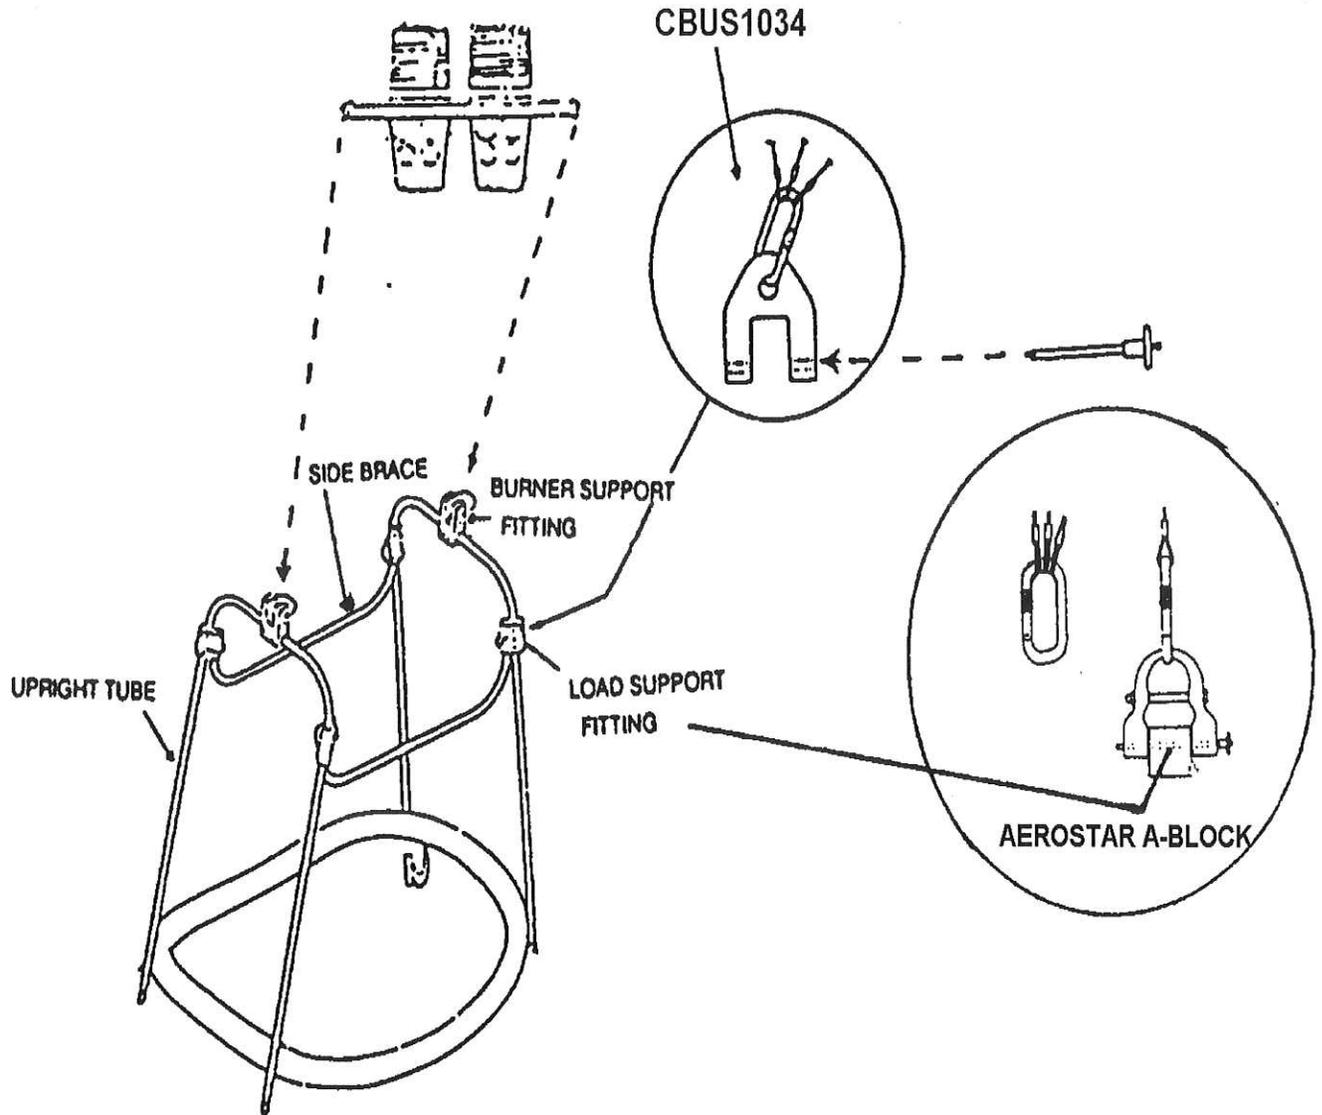

Figure 2.13
- 2.13.2: **FOR 4-POINT HOOK-UP** Cameron Part NO. CBUS1034 or standard Aerostar A-Blocks may be used (SEE Figure 2.13)(All models except CW-AFX and RWSW-AFX which use carabiners only). Cameron Carabiners attach the envelope cables to the four Cameron Part No. CBUS1034 or Aerostar A-blocks (or carabiners on CW-AFX & RWSW-AFX only) in the following sequence: